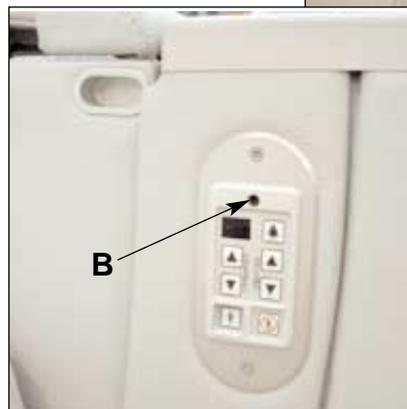

FIG. 312B: PCU
- (11) To remove PCU, unti-ghten its attaching screw (B) (see fig. 312B); unplug connector.